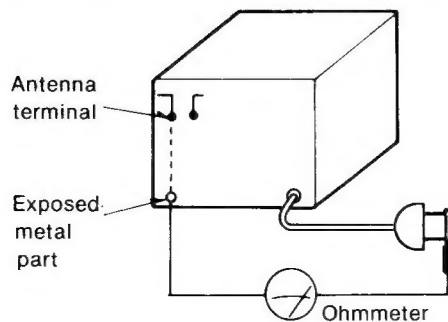

Fig. 1
3. Measure the resistance value with ohmmeter between the jumpered AC plug and each exposed metal cabinet part, such as screwheads, antenna, control shafts, handle brackets, etc. Equipment with antenna terminals should read between  $3\text{M}\Omega$  and  $5.2\text{M}\Omega$  to all exposed parts\*. (Fig. 1) Equipment without antenna terminals should read approximately infinity to all exposed parts. (Fig. 2)